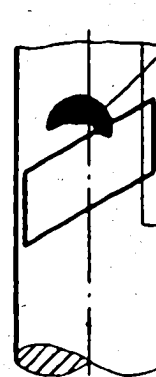

Fig. 1
- . material has been cut away (cavitation) in the area of the control edge (Fig. 1);